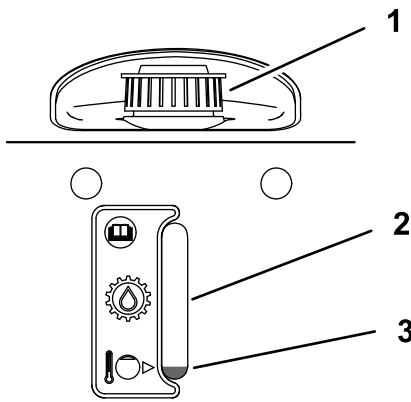

Figure 47
4. Use the sight window to check the fluid level in the expansion tank (Figure 47).
- Add hydraulic fluid to the expansion tank until it reaches the fluid line (Figure 47).